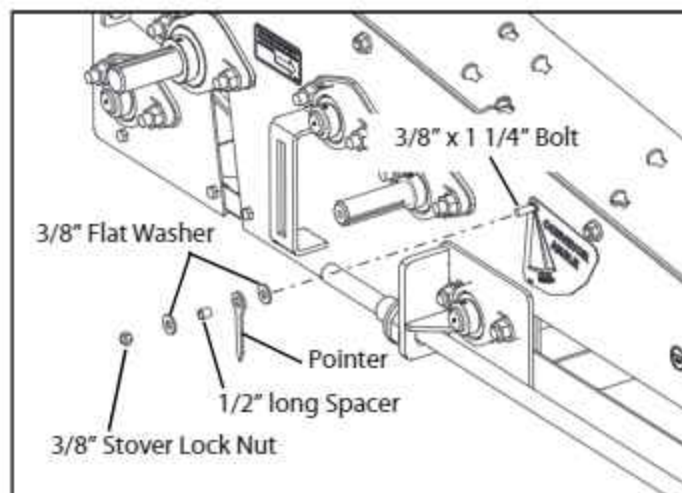

FIG. 3-21. Angle Pointer
10. Install the Angle Pointer at the Conveyor Angle decal on the left side of the S-Drive, using the fasteners shown in Fig. 3-21. Make sure the pointer rotates freely.